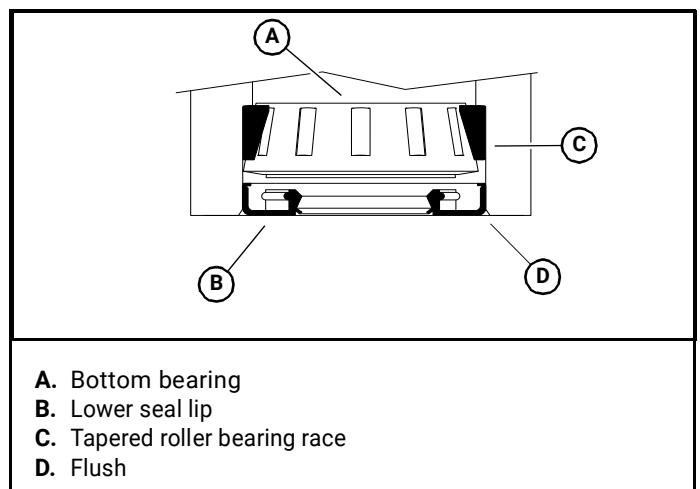

Figure 4-23
- Install the bottom bearing and lower seal. Make sure that the lower seal lip is facing out and driven flush with the caster pocket. Figure 4-23
11. Install the caster fork assembly, taking care not to damage the lower seal lip. Figure 4-23